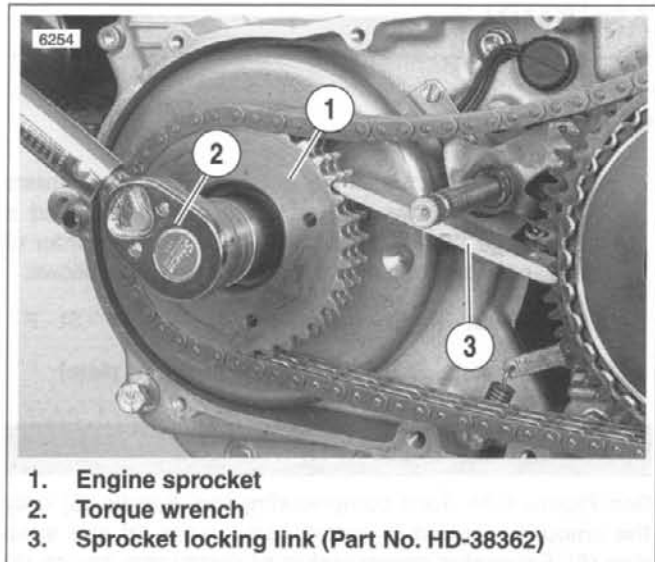

Figure 6-23. Sprocket Locking Link
2. See Figure 6-23. Install the engine sprocket nut.
- a. Place SPROCKET LOCKING LINK (3) (Part No. HD-38362) between primary chain and engine sprocket.